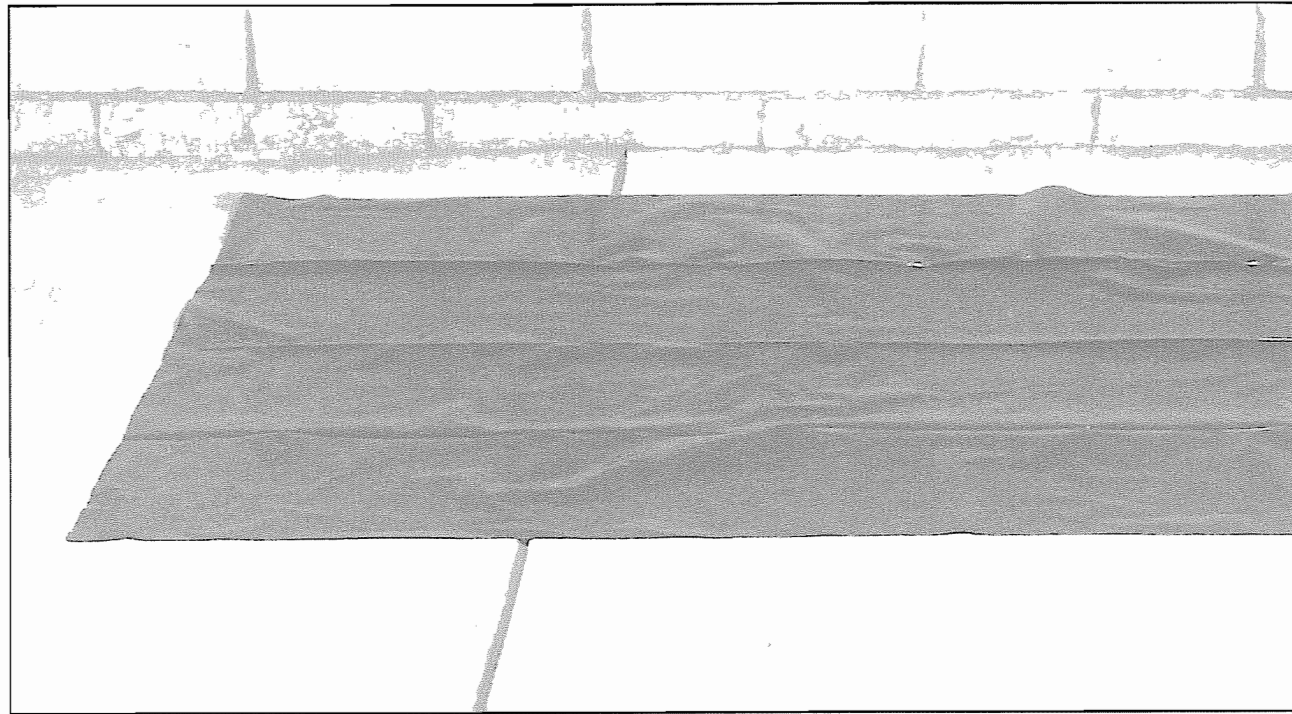
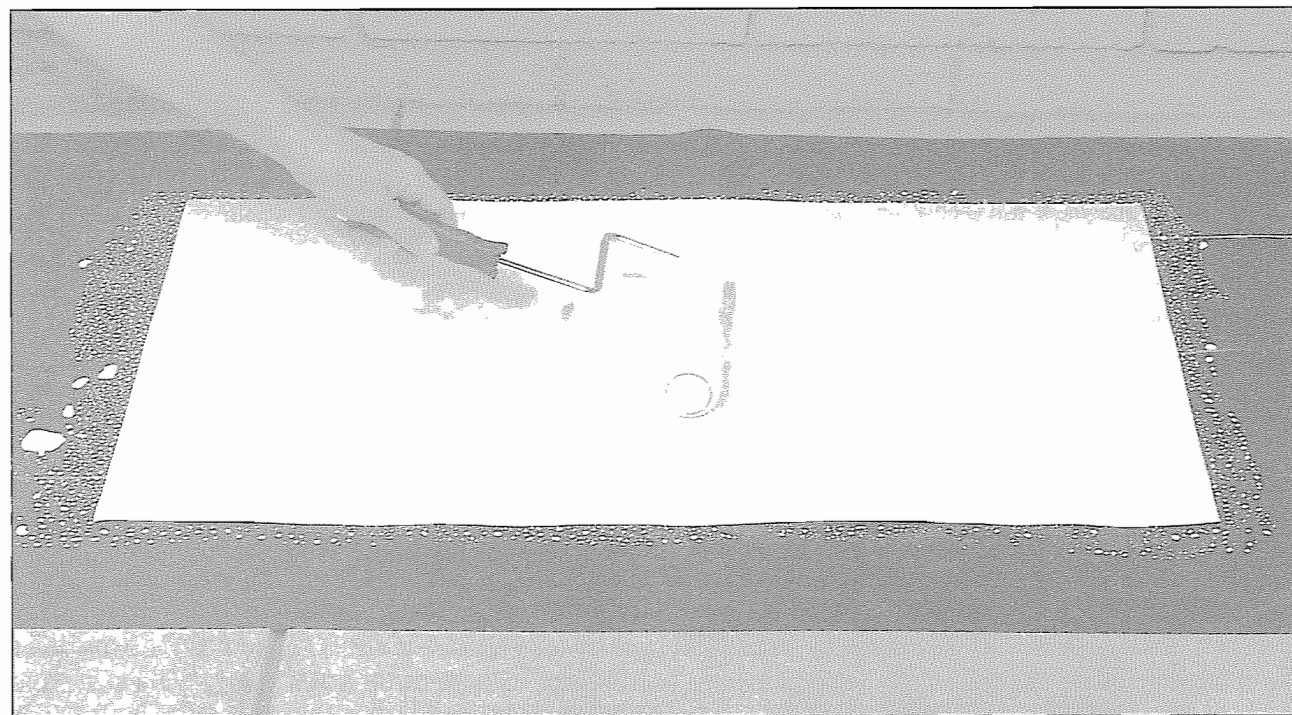

Figure 8-19. Large sheets of paper are glued on a 3 foot-wide sheet of plastic.
Figure 8-20. The glue is applied to the paper with a 9" medium nap (3/8") paint roller.
1. Cut a 3 foot-wide sheet of plastic sheeting 6 feet long, and lay it on a concrete slab (*Figure 8-19*). Lay the sheet of tagboard on the plastic, and using the paint roller, coat one side with the **GLUE SOLUTION** (*Figure 8-20*). The coating needn't be thick, but it must *completely* cover the paper (i.e. no bare spots). Lift the glue-coated sheet off the plastic, and let it dry. When it is *thoroughly* dry, turn it over, and place it back on the plastic. Then coat the *opposite* side, and let it dry again.